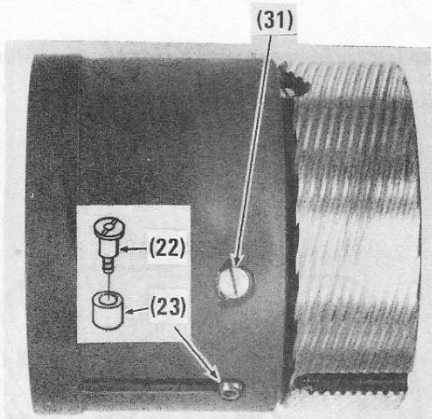

FIG. 4-13
- g) Install 1st lens slide screw (31) in its mounting hole, through first lens cam slot in inner helicoid and into long slot in 2nd lens slide housing. Repeat for other side of lens. Fig. 4-13.
a) Remove 1st lens group slide screw (31) two places. Use tool No. 3650533 to remove 2nd lens group slide shaft (39) and roller (38) (two places). Fig. 4-13.